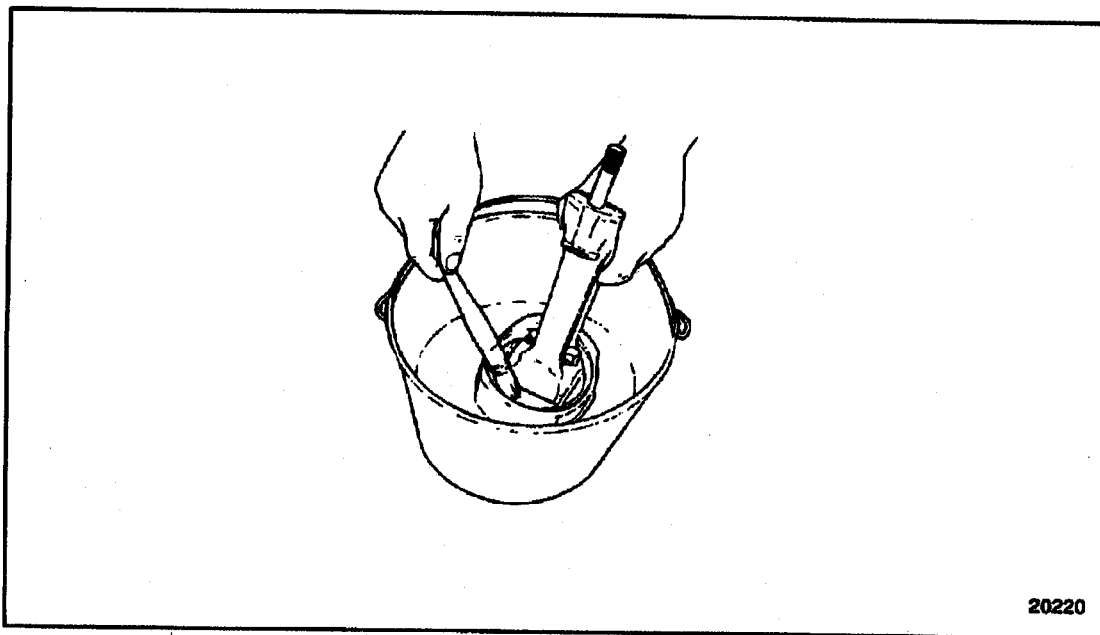

Figure 1-271 Piston and Connecting Rod Assembly Lubrication
3. Place the piston and connecting rod assembly into pan, with the dome of the piston on the bottom of the pan. See Figure 1-271.